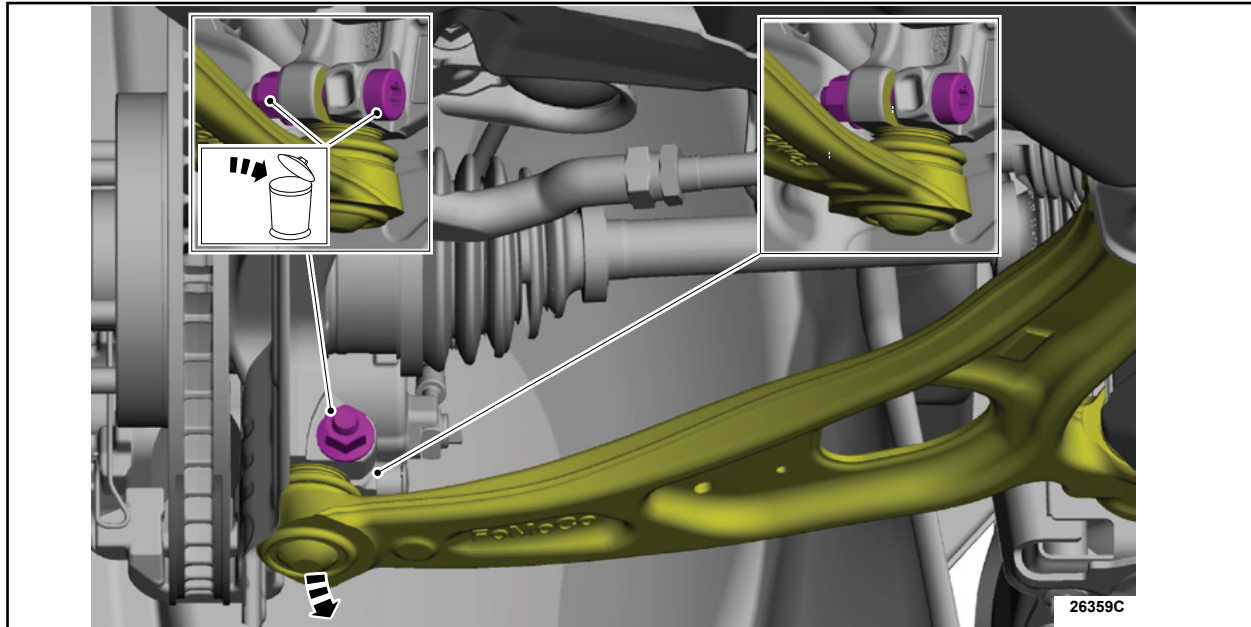

FIGURE 4
b. Remove and discard the ball joint pinch bolt and nut on both sides. See Figure 4.
c. Install a *new* ball joint pinch bolt and nut on both sides. See Figure 4.